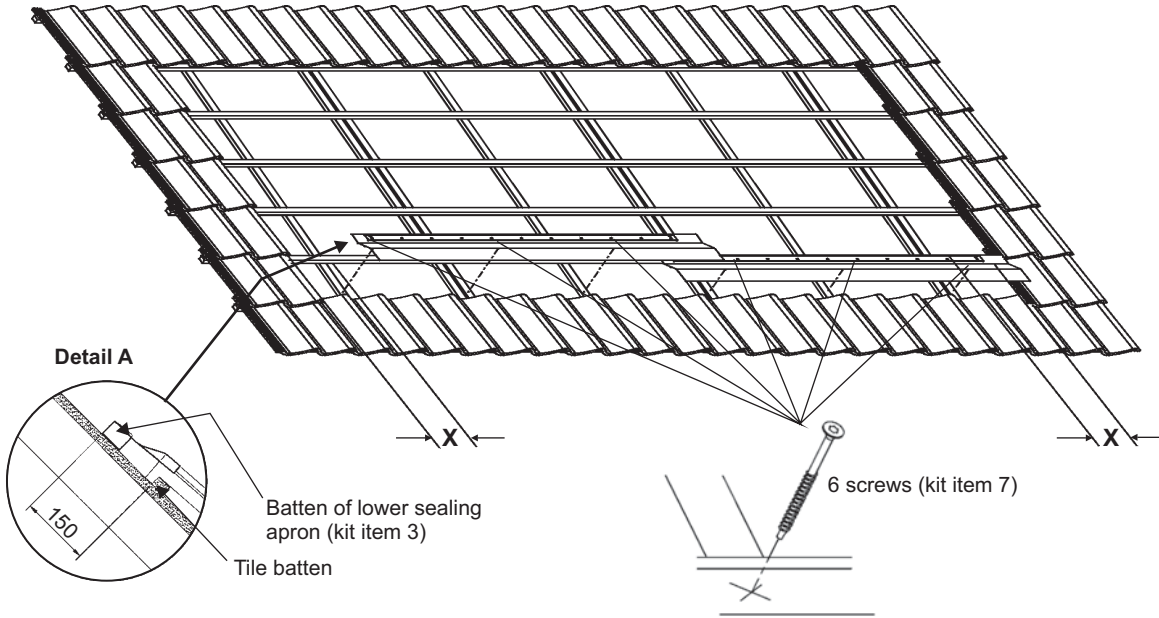

Fig. 12 - Lower sealing aprons
- Two apron seals (kit item 3) are used for landscape installations, these should be laid side by side (left over right) and pushed tight together to establish the overall length as shown in Fig. 12.
Fasten the apron seals above the batten for the tiles below as shown in detail 'A', making sure they are level. Secure to the rafters using six of the 70 mm screws provided (kit item 7). See Fig. 12.
- Roll out and position the roof integrated flashing sheet (kit item 2). The pre-formed nibs at the bottom should rest against the batten of the apron seals as shown in detail 'B', Fig. 12. Before securing the sheet, mark the position of the pipe inlet hole required and carefully cut the underfelt or board for the pipes and sensor cable.
Fasten the flashing sheet to the battens using nine of the 70 mm screws supplied (kit item 7) as shown in Fig. 12.
Position the finishing strips (kit item 4) along the bottom edge of the flashing sheet using sixteen of the 30 mm screws supplied (kit item 8) as shown in detail 'B', in Fig. 12.